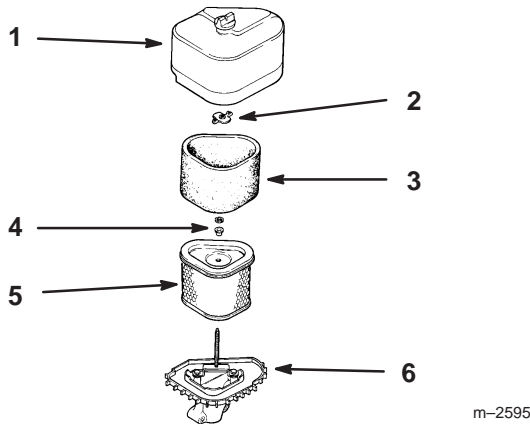

Figure 29
2. Clean around the air cleaner to prevent dirt from getting into the engine and causing damage. Unscrew the cover nut and remove the air cleaner cover (Fig. 29).
3. Remove the air cleaner assembly (Fig. 29).
4. Carefully slide the foam element off the paper element (Fig. 29).
1. Carefully slide the foam element onto the paper air cleaner element (Fig. 29).
2. Place the air cleaner assembly onto the air cleaner base (Fig. 29).
3. Install the air cleaner cover and secure with cover nuts (Fig. 29).